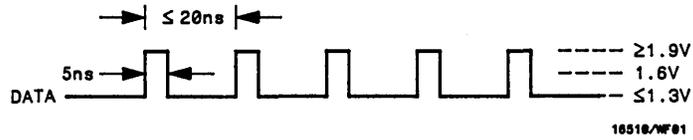

Figure 3-33. Waveform for Glitch Test
2. Set pulse generator for output in figure 3-33.